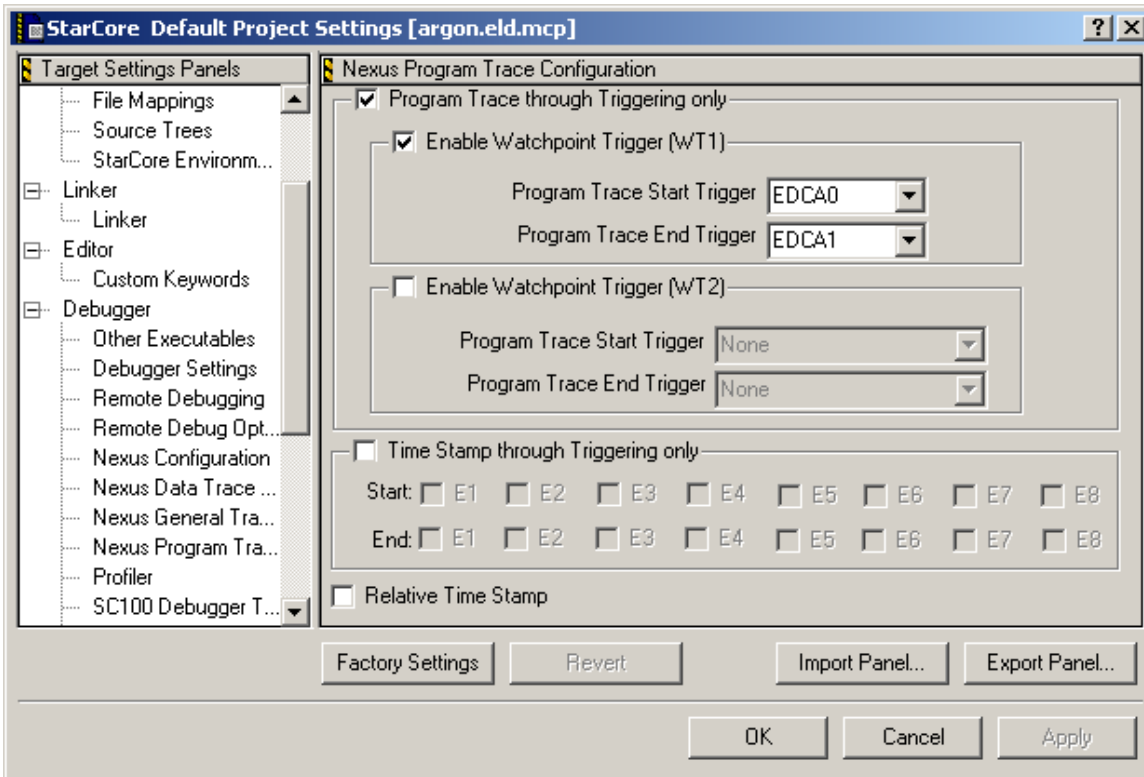

Figure 16: Nexus Program Trace for Exception Capture
- b. Nexus Program Trace Configuration: Figure 16: Nexus Program Trace for Exception Capture shows the setup for program trace. This setup dictates that tracing shall start when EDCA0 occurs and tracing shall stop when EDCA1 occurs. This is done to limit the program trace data collected.